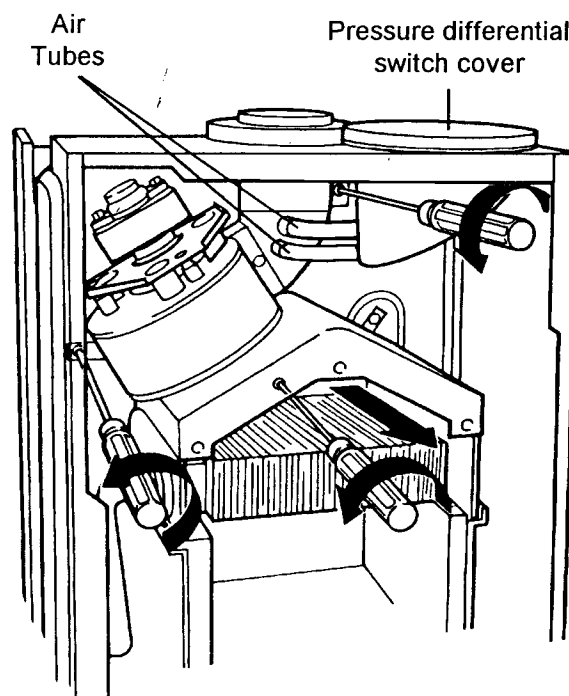

Fig. 30
- 8.9.4 Unscrew maintenance clip securing screws and remove clip (fig. 30)
- 8.9.6 Remove 3 flue hood retaining screws (fig. 30)
Part No 5926 Refer to fig. 30
- 8.10.3 Remove 3 screws holding pressure differential switch cover (fig. 30) and remove cover.